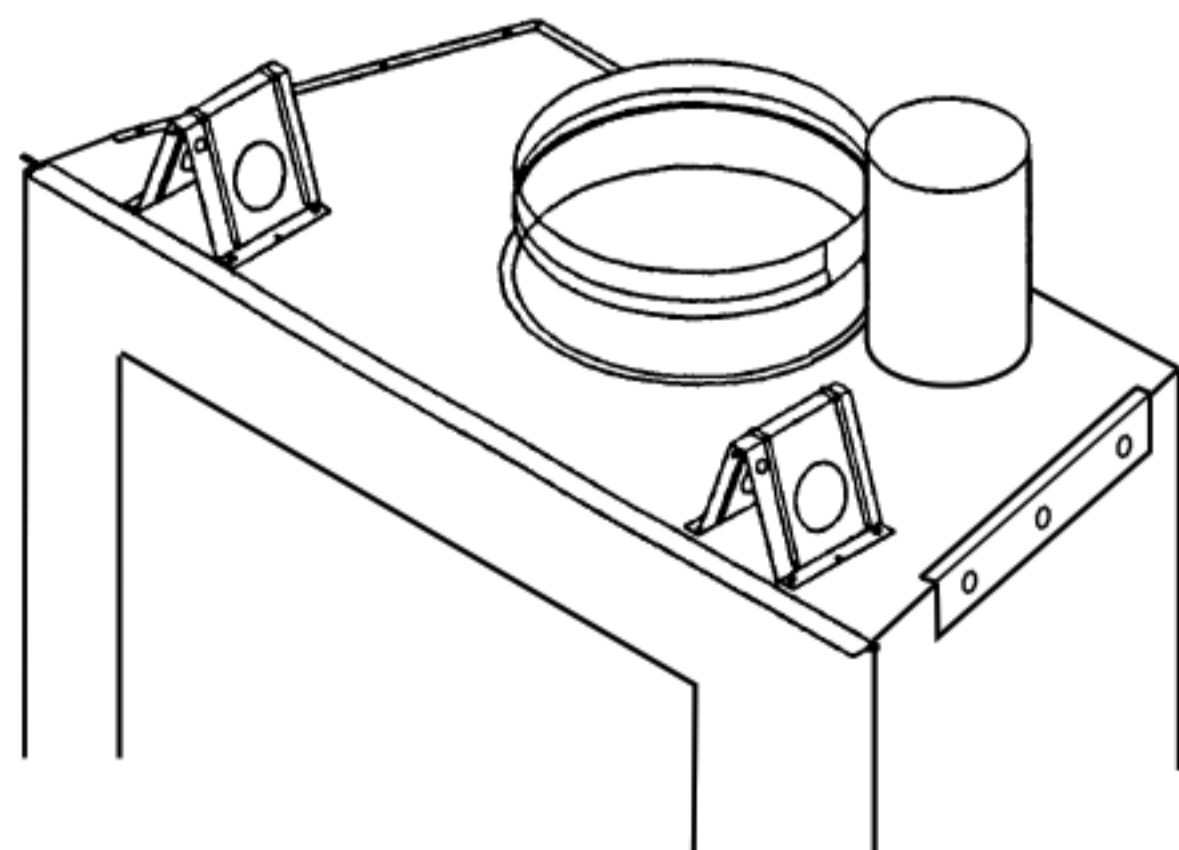

Figure 18
Step 5. Install the Cold Climate Kit to the fireplace following the instructions provided with the kit, (*Figure 18*).